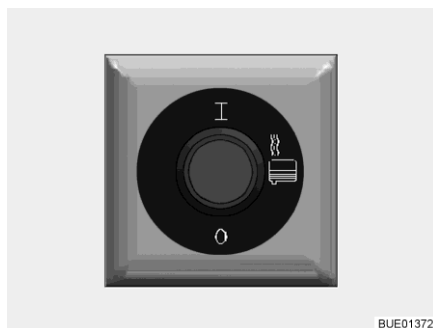

Fig. 193 Switch for waste water heating
**Switching on:** ■ Press the upper part of the switch (Fig. 193). The waste water heating is switched on and prevents the heated components from freezing.